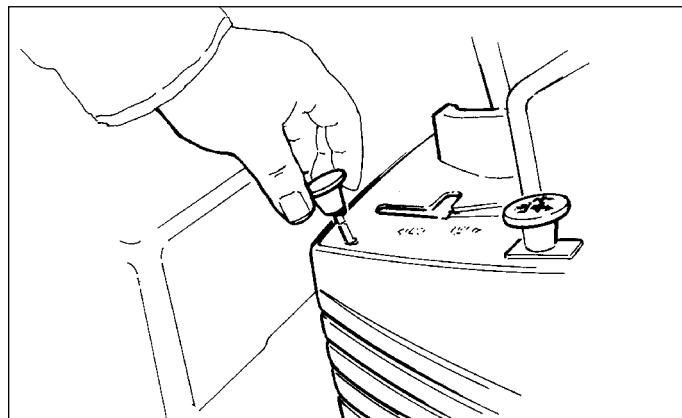

Figure D-6. Unscrew Parking Brake Knob
5. Unscrew the parking brake knob from the parking brake rod. (Figure D-6)